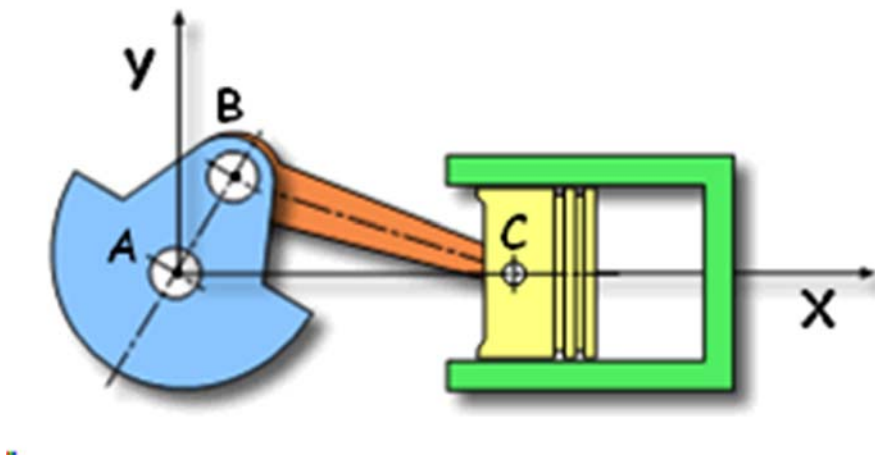

Figure 1
1. Figure 1 shows a piston-crank system that represents a typical internal combustion engine setup. For the condition shown, the following parameter applies.